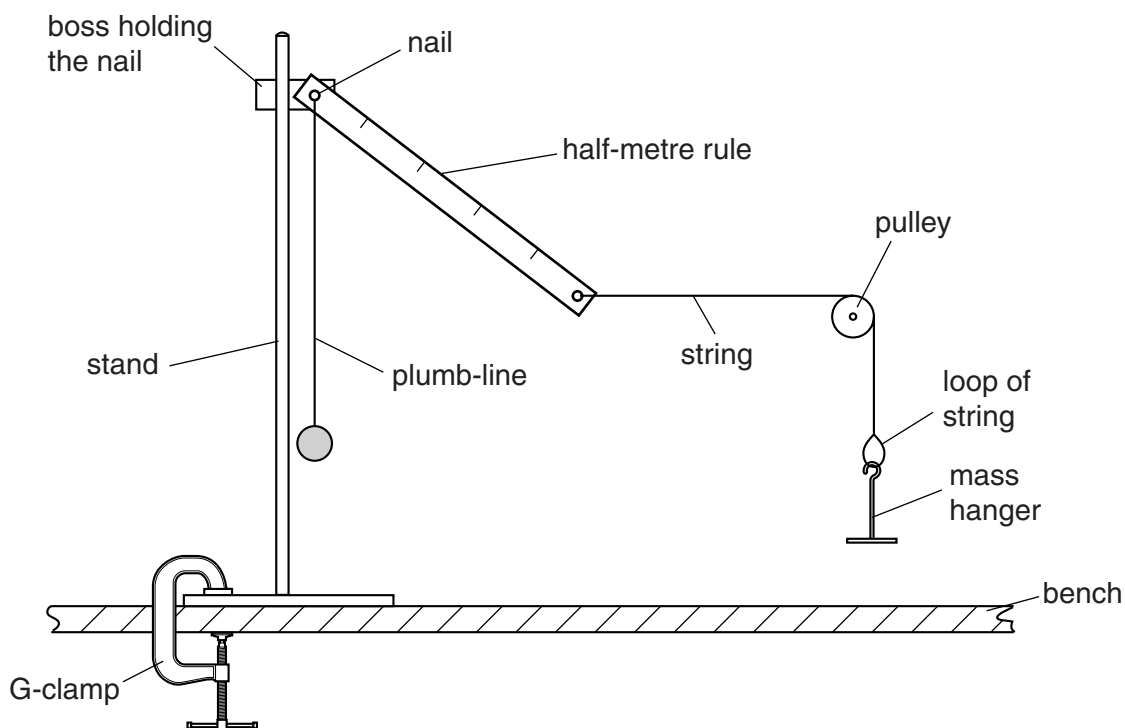

Fig. 4.1
3. The stand should be clamped to the bench using the G-clamp, as shown in Fig. 4.1.
7. The Supervisor should pass the nail through the hole at the 1.0 cm mark on the half-metre rule so that the head of the nail is on the scale side of the rule. The pointed end of the nail should then be secured in the boss. In this way the head of the nail will prevent the rule falling off the nail. The Supervisor should then suspend the plumb-line from the nail. The **candidate** will then set up the remainder of the apparatus as shown in Fig. 4.1.